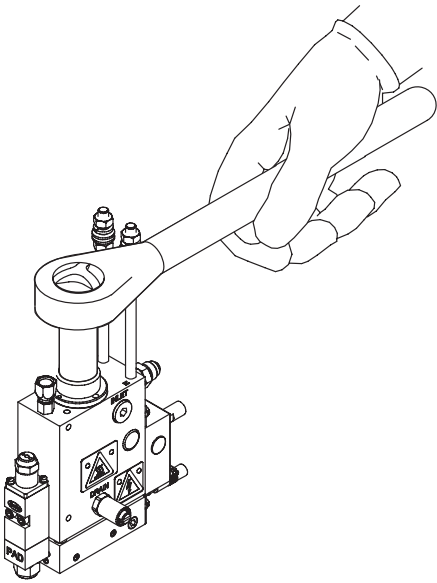

Figure 7 Removing a filter (vertical filter shown)
6. See Figure 7. Use a socket wrench to loosen the filter assembly and then remove the assembly by hand over a drain pan.